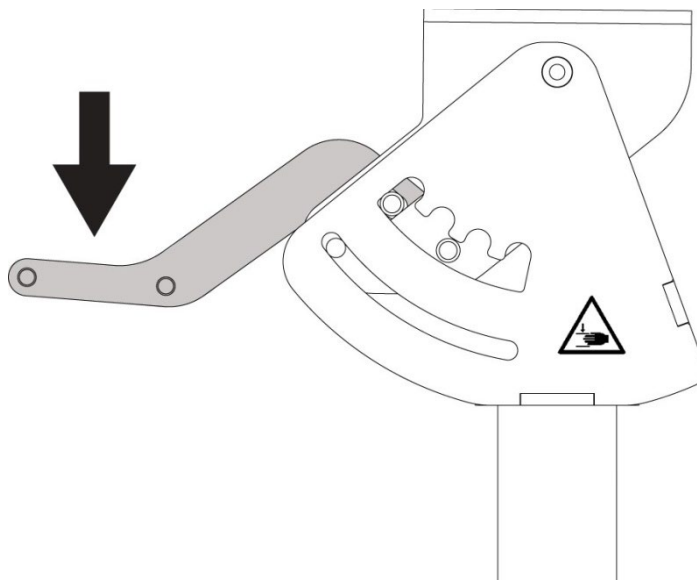

Figure 18 Dispenser Head Angle Adjuster Handle
3. Release the **Dispenser** Head Angle Adjuster Handle when the preferred angle is reached (refer to Figure 18).